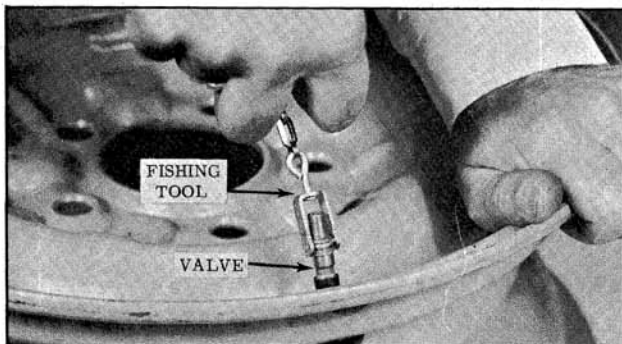

Fig. 9-41 Installing Valve
3. Insert the snap-in type rubber valve through the hole in rim as far as it will go, then pull the valve through the hole with a tire valve fishing tool until the valve snaps into position. (Fig. 9-41)